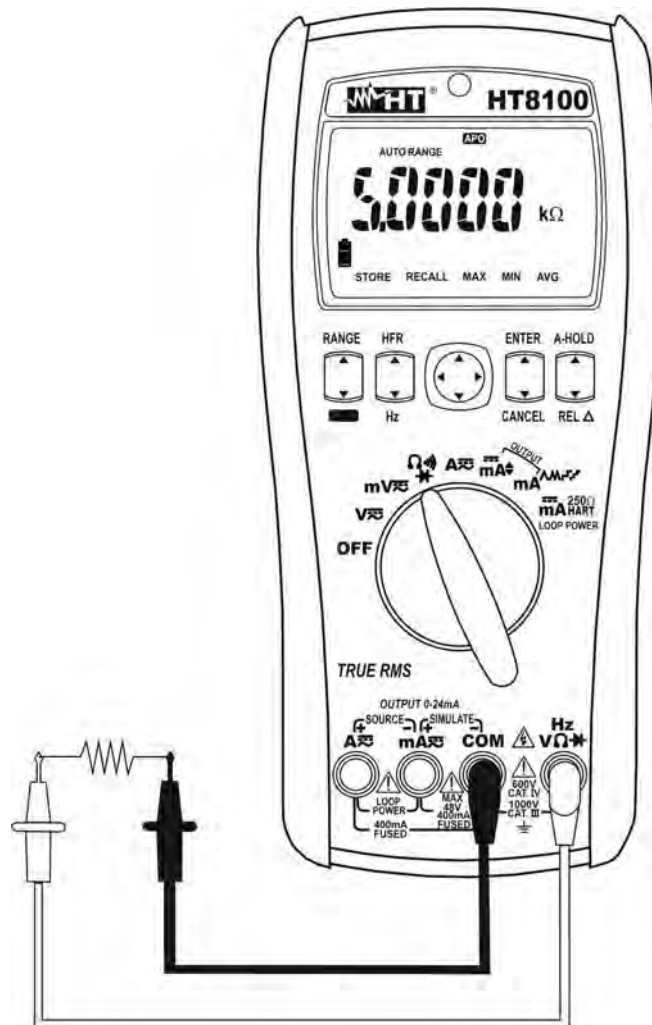

Fig. 6: Use of the instrument for resistance measurement and continuity test
4. Position the test leads in the desired points of the circuit to be measured (see Fig. 6). The display shows the value of resistance